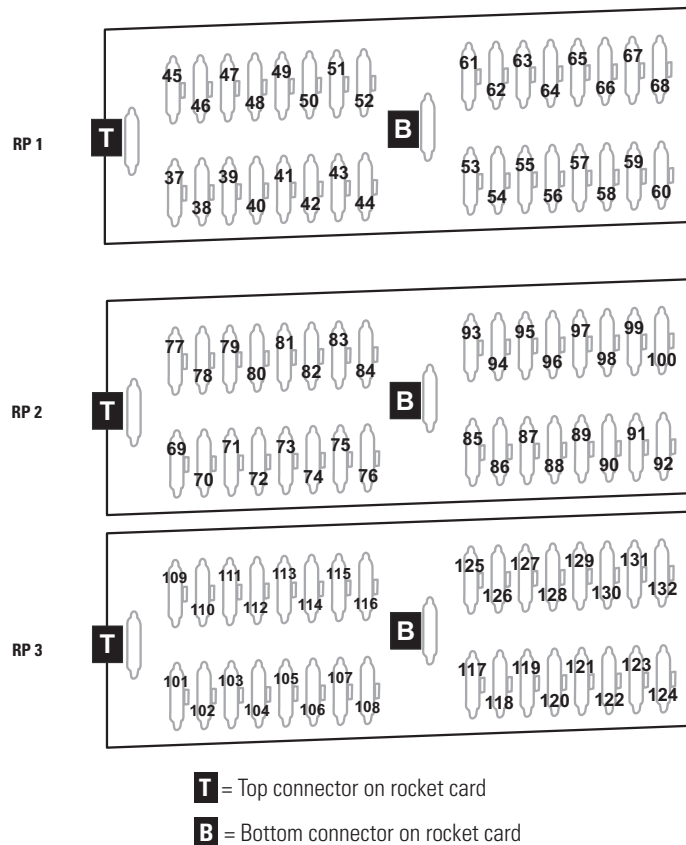

Figure 4. Rocket Card to Expansion Port Control Association
- e. Connect peripherals to desired expansion ports. Refer to RP1 in Figure 4.
5. Connect peripherals to desired expansion ports. Refer to RP1 and RP2 in Figure 4.
8. Connect peripherals to desired expansion ports. Refer to RP1 and RP2 in Figure 4.